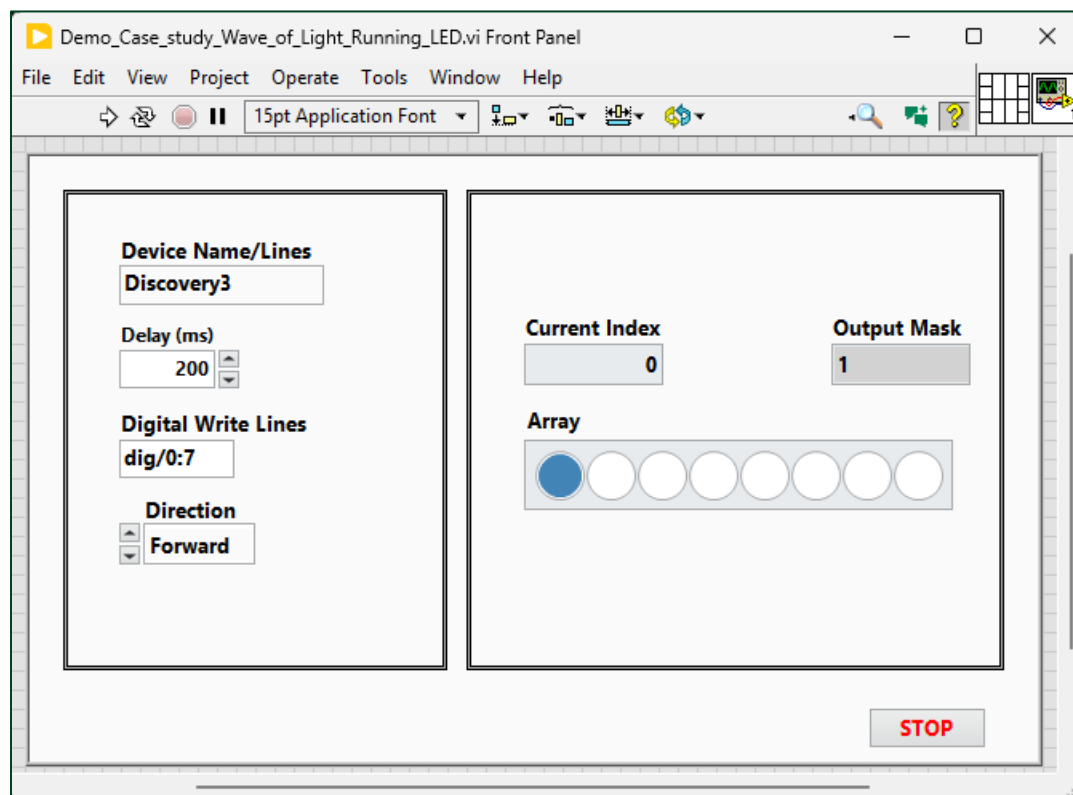

Figure 9. VI Front Panel
2.2. Modify the front panel shown in **Figure 9**. In the **Device Name/Lines** String Control, write your corresponding **Device** name from **Table 2**.